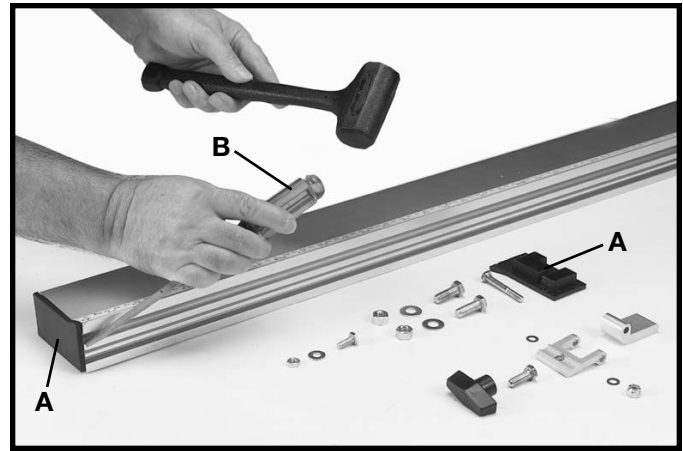

Fig. 59
1. Locate the T-Slot Guide Rail and mounting hardware Fig. 59, from the packing material of the Unifence. Remove the end caps (A) Fig. 59, prior to assembly, by inserting a flat headed screwdriver (B) into the channel and tap gently as shown. **NOTE:** Take care not to damage either the cap or the rail.